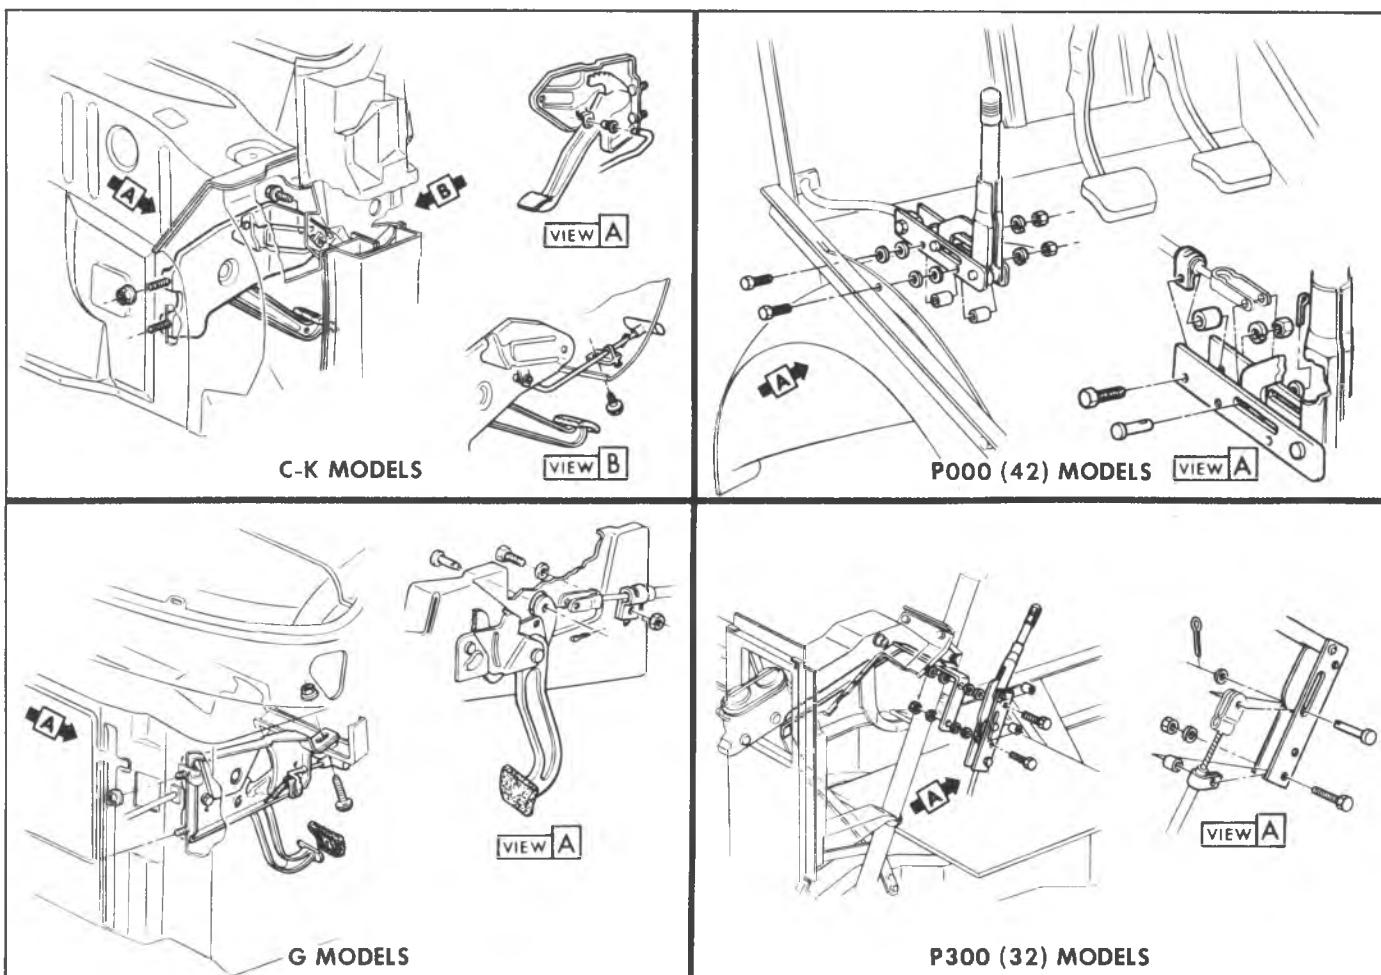

Fig. 76--Parking Brake Assembly--Typical
**PARKING BRAKE PEDAL OR HANDLE****Removal (Fig. 76)**